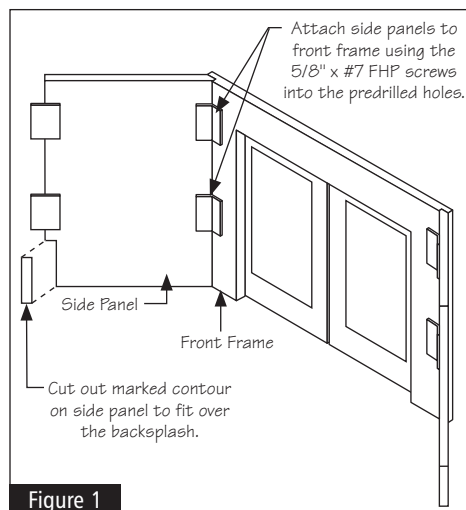

Figure 1
- 2** Temporarily attach side panels to the front frame using the 5/8" x #7 FHP screws. Screw through the plastic mounting brackets into the predrilled holes (4 places). See Figure 1.
- 5** Place side panels in vise or clamp securely in suitable manner, taking care to protect finish from damage. Using fine tooth hand saw, cut out backsplash contour marked on the side panels in Step 3. Reattach side panels. See Figure 1.